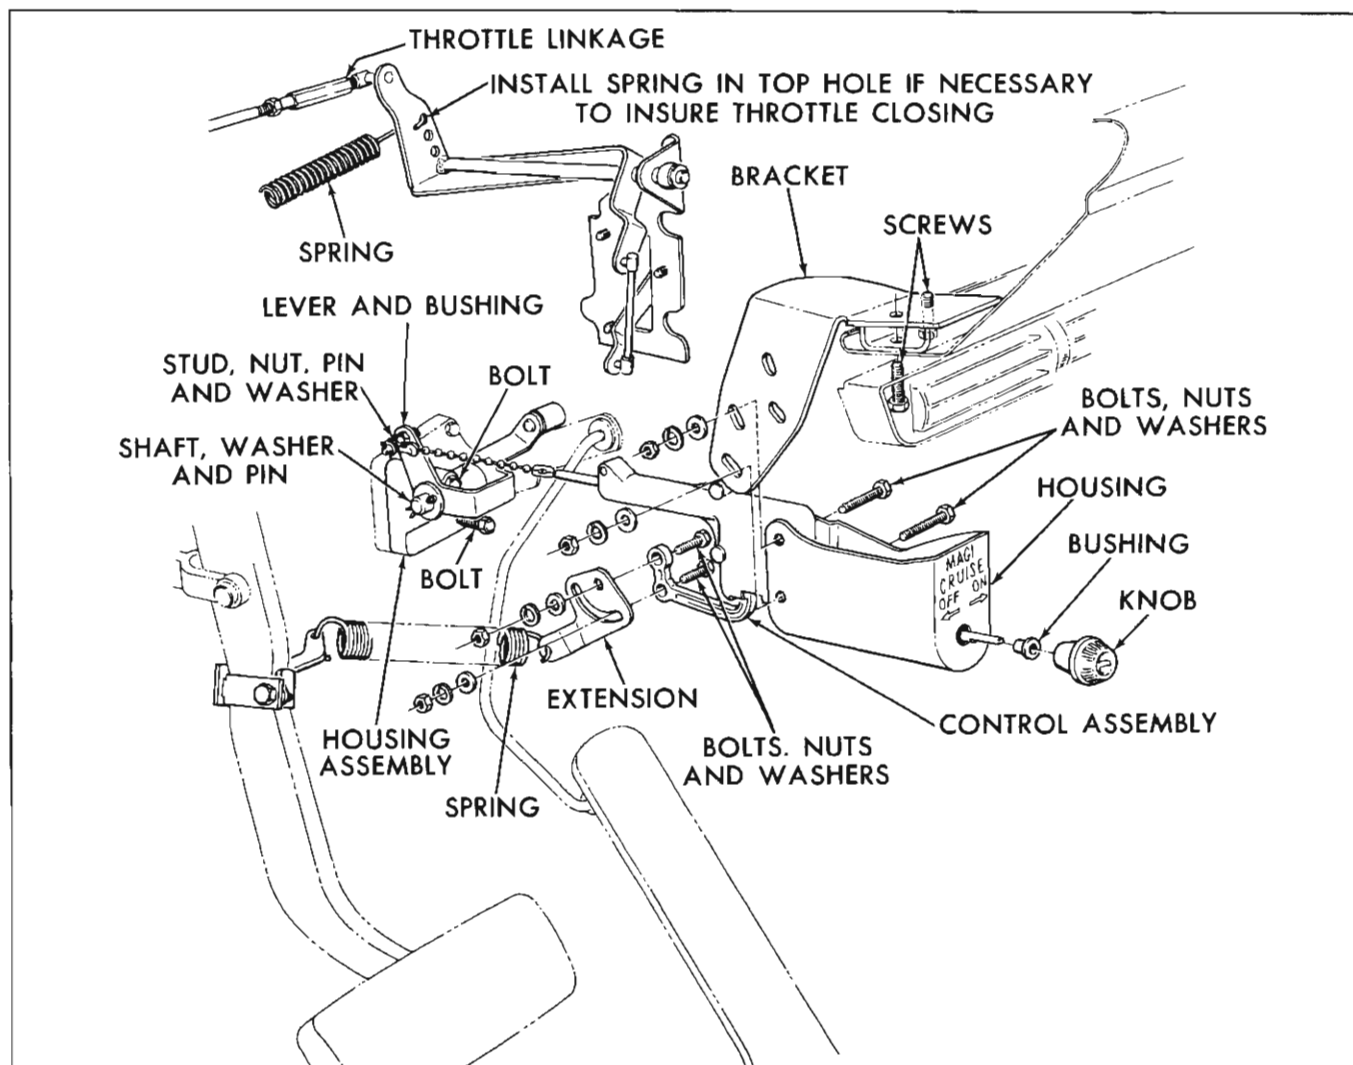

Fig. 12-37 Reference Illustration—Magi-Cruise Control
##### DESCRIPTION (Fig. 12-37)
5. Install bead chain between the release spring and the release lever on the control leaving approximately two beads of slack (Fig. 12-37).